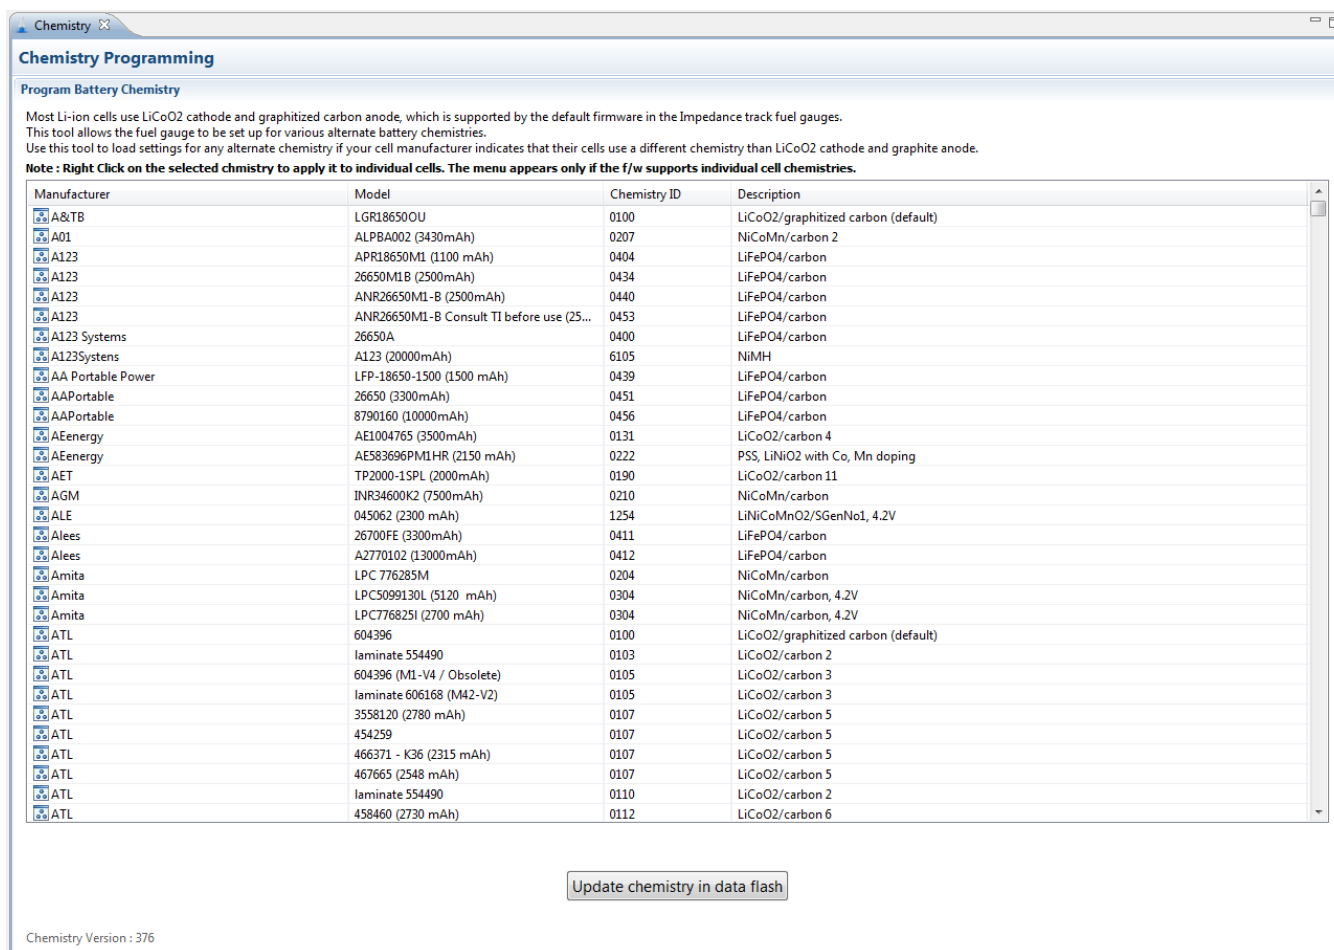

Figure 5. Chemistry Screen
Press the *Chemistry* button to select the Chemistry window (see Figure 5).
- Select the ChemID that matches your cell from the table (see Figure 5).